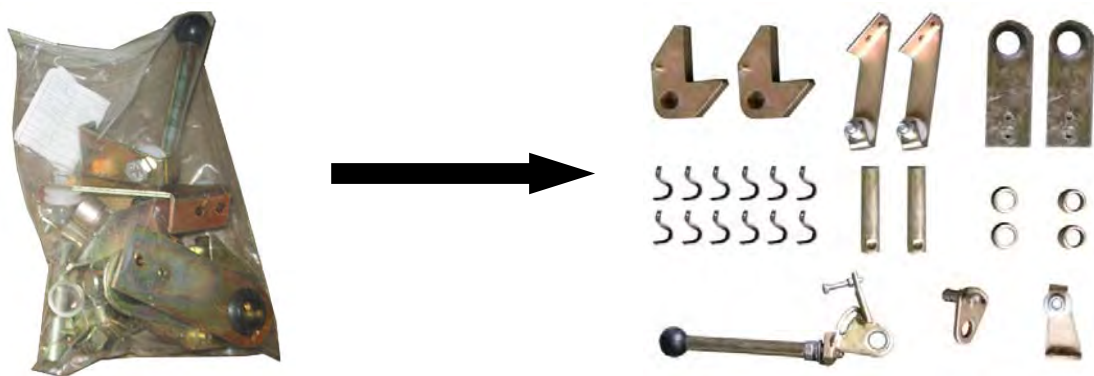

Fig. 14
9. Check the parts in the parts bag #2 according to parts bag list (See Fig. 14).